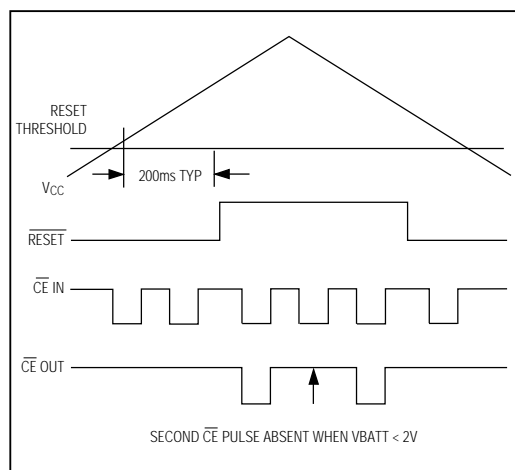

Figure 11. Backup-Battery Monitor Timing Diagram
The MAX791 low-battery voltage function monitors VBATT. Low-battery detection of $2.0V \pm 0.15V$ is monitored only during the reset-timeout period (200ms) that occurs either after a normal power-up sequence or after the MR reset input has been returned to its high state. If the battery voltage is below 2.0V, the second CE pulse is inhibited after reset timeout. If the battery voltage is above 2.0V, all CE pulses are allowed through the CE gate after the reset timeout period. To use this function, after the 200ms reset delay, write 00 (HEX) to a location using the first CE pulse, and write FF (HEX) to the same location using the second CE pulse following RESET going inactive on power-up. The contents of the memory then indicates a good battery (FF) or a low battery (00) (Figure 11).